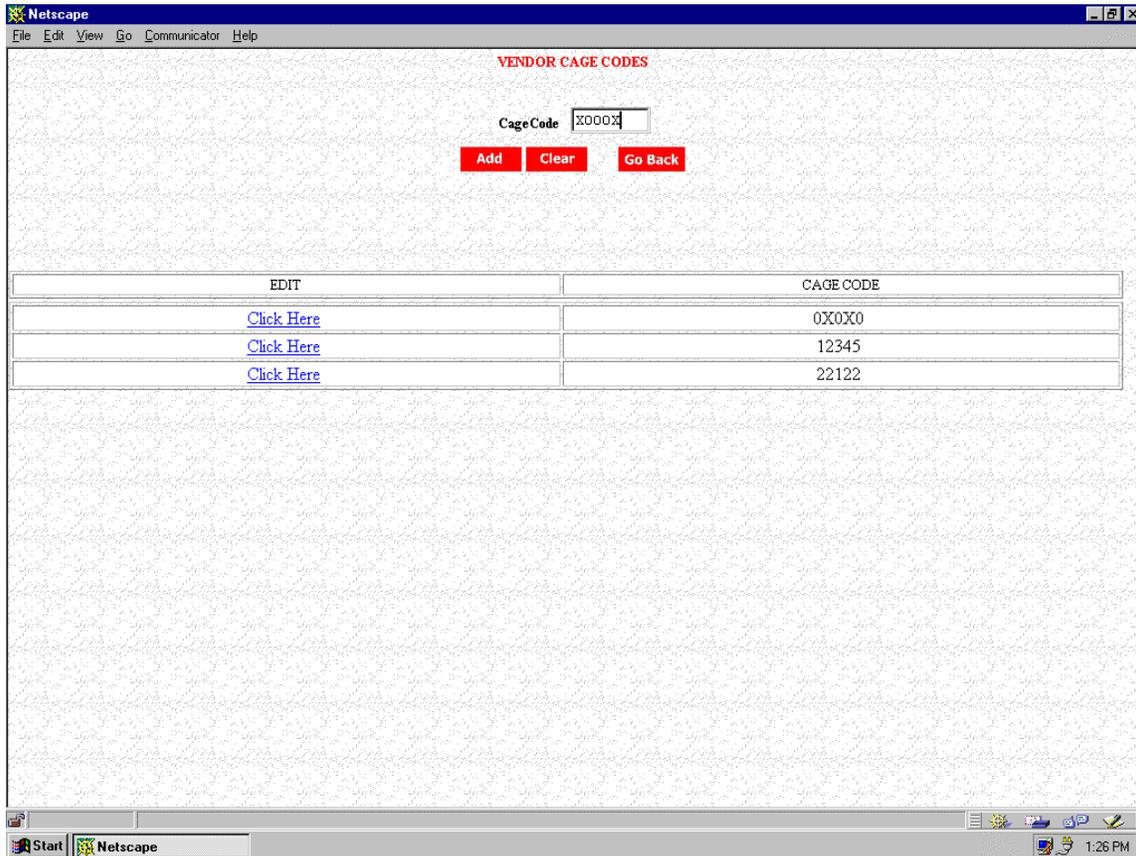
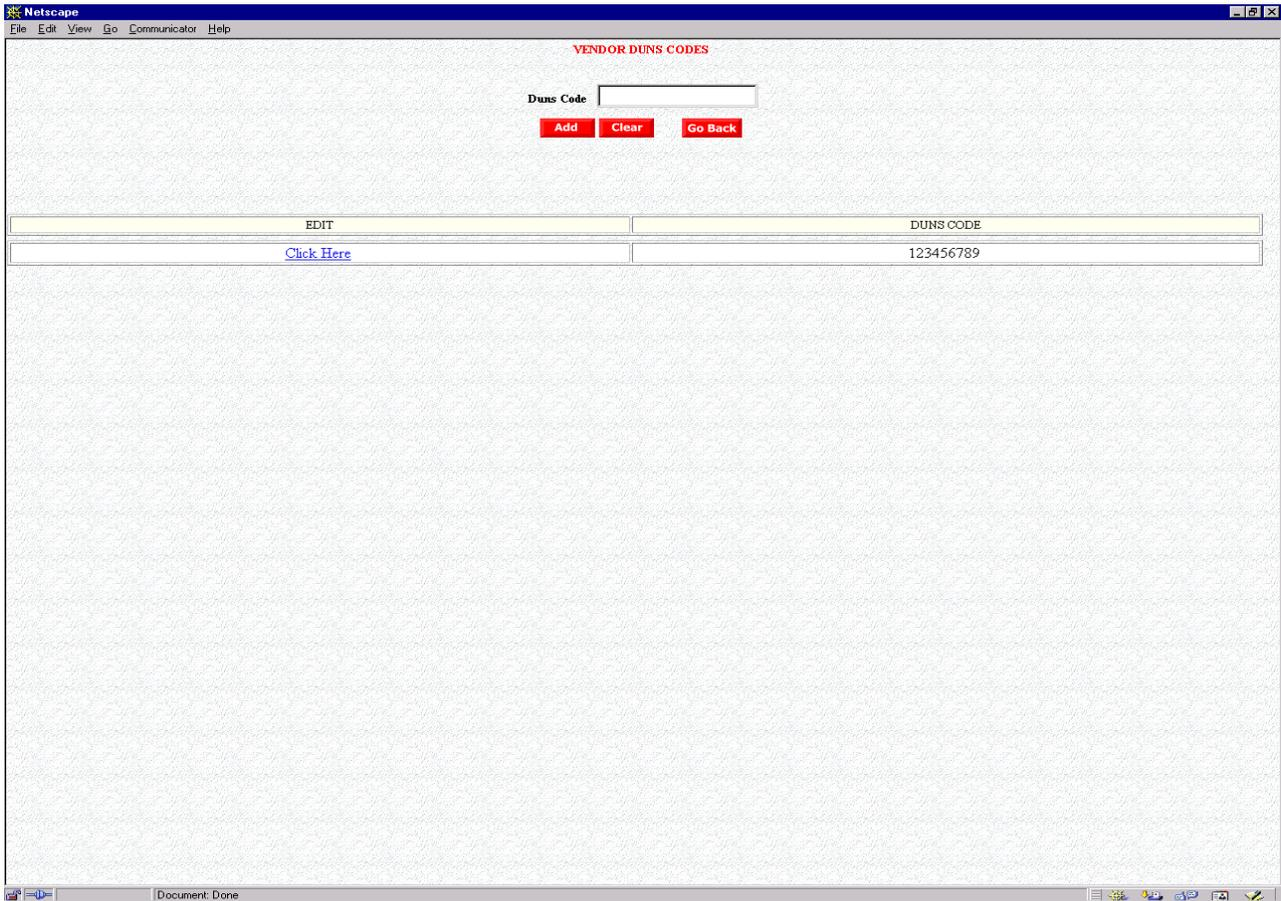

Figure 7b. Vendor CAGE Code Screen
Figure 7d. Vendor DUNS Code Screen
After you modify any vendor information, the **Update** button saves the new information and forwards an update to DFAS. If CAGE Code information has changed, see the note at the bottom of the **Vendor Information Screen** (Figure 7a), which directs you to the **Vendor CAGE Code Screen** (Figure 7b). If DUNS Code information has changed, see the note at the bottom of the **Vendor Information Screen** (Figure 7a), which directs you to the **Vendor DUNS Code Screen** (Figure 7d).
Figure 7b depicts the **Vendor CAGE Codes Screen**
Reset After the CAGE Code has been edited in the data field, but before submitting with the **Update** button, the **Reset** button will restore the original CAGE Code to the data field on the **Vendor CAGE Code Screen** (Figure 7b).
Cancel The **Cancel** button returns you to the pre-edit data set from the **Vendor CAGE Code Screen** (Figure 7b).
Delete The **Delete** button deletes the identified CAGE Code unless it is the last remaining CAGE Code on the **Vendor CAGE Code Screen** (Figure 7b).
Figure 7d depicts the **Vendor DUNS Codes Screen**.
- Reset** After the DUNS Code has been edited in the data field, but before submitting with the **Update** button, the **Reset** button will restore the original DUNS Code to the data field on the **Vendor DUNS Code Screen** (Figure 7d).
- Cancel** The **Cancel** button returns you to the pre-edit data set from the **Vendor DUNS Code Screen** (Figure 7d).
- Delete** The **Delete** button deletes the identified DUNS Code unless it is the last remaining DUNS Code on the **Vendor DUNS Code Screen** (Figure 7d).